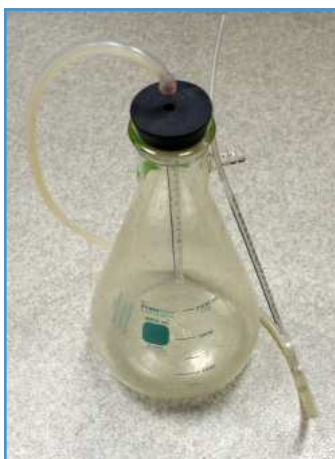

Figure 1-3: Example vacuum flask set up
2. Securely place the single-hole stopper into the mouth of the vacuum flask. Connect the flex tube to the stopper and the plastic pipette. Connect the hose barb to the vacuum source. See Figure 1-3.